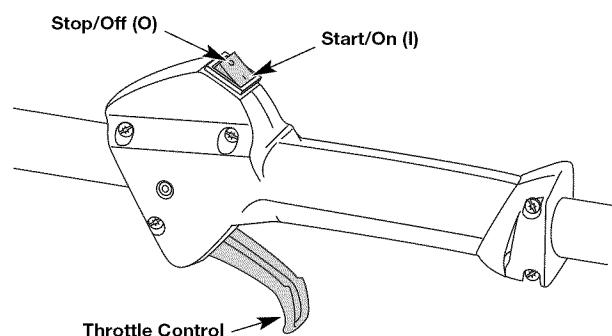

Fig. 8
NOTE: There is no need to turn the unit on. The On/Off Stop Control is in the ON (1) position at all times (Fig. 8).
2. Press and hold the On/Off Stop Control in the OFF (O) position until engine comes to a complete stop (Fig. 8).